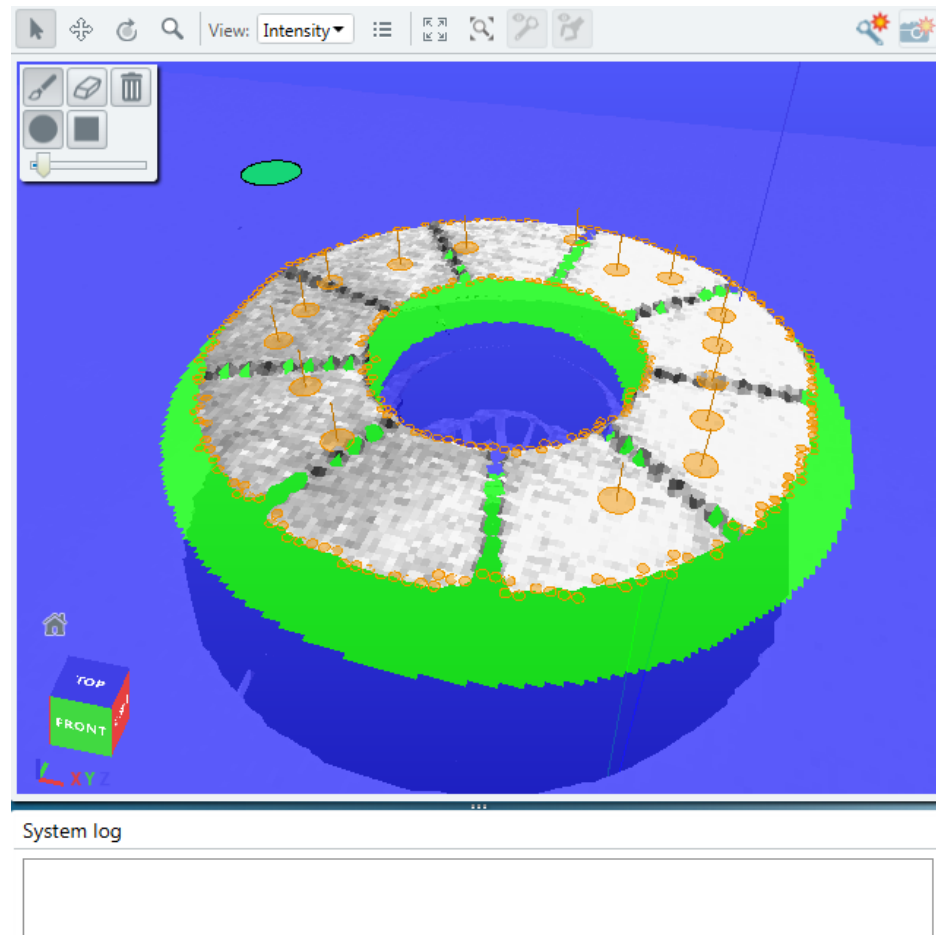

Figure 55: Marking an object
Marked regions are displayed in green on the blue Z-plane, see figure 55. All volume above the green region marking is included in the region of interest used to teach the edge algorithm.
9. Use the region marker to mark relevant edges and flat surfaces on the part. Detected edges and surfaces are visualized with indicators, as shown in figure 55. Small circles indicate detected edges, while large circles with a line indicate detected flat surfaces.